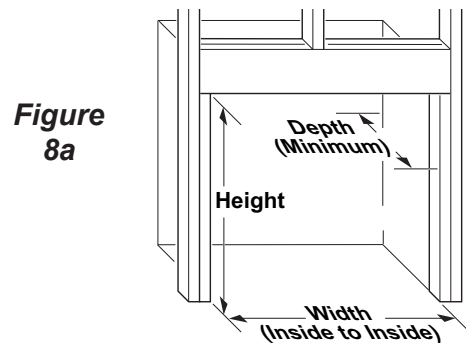
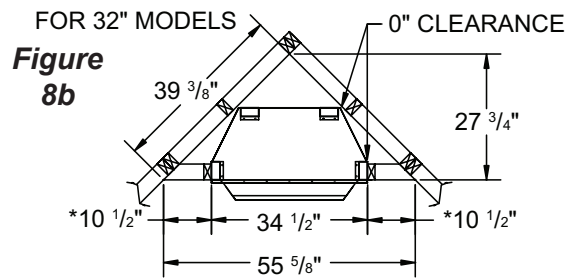

Figure 8a
Figure 8b
1. Frame in rough opening. The firebox framing should be constructed of 2 x 4 lumber or heavier. Use dimensions in Table 1 and rough opening layout in Figure 8a. Adjust framing so that firebox flushes with finished wall surface. If installing in a corner, use dimensions in Figures 8b, 8c and 8d for rough opening.